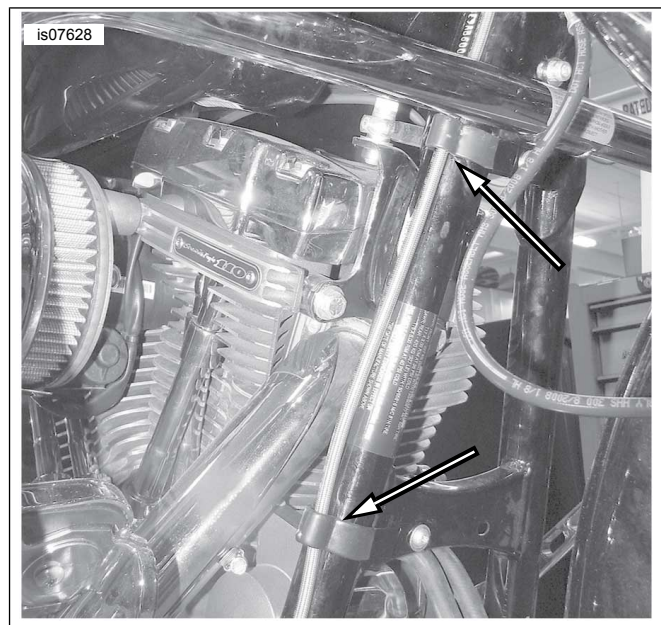
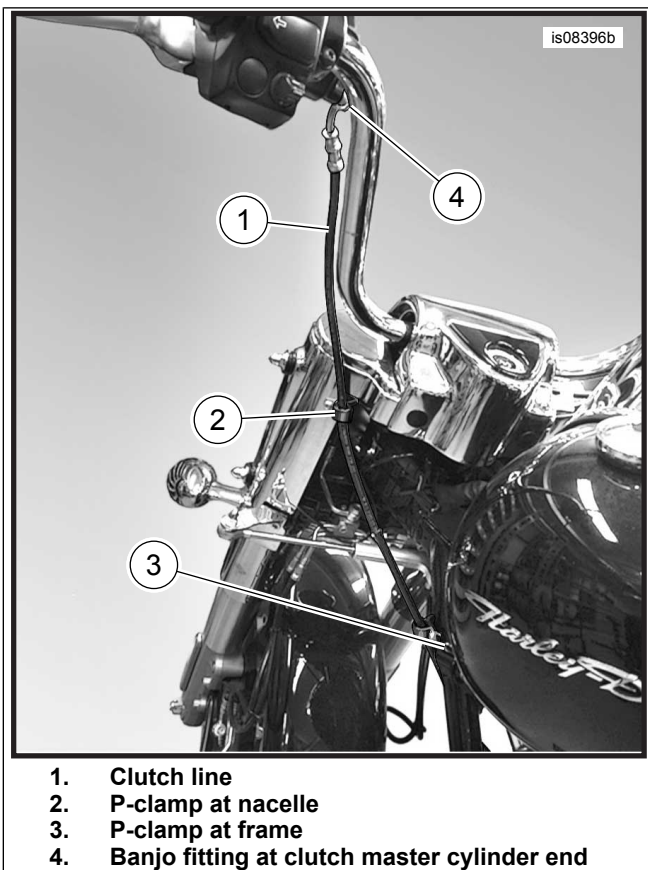

Figure 4. Clamp Locations on Frame Downtube, Fairing Models
Figure 5. Clutch Fluid Line Upper Routing (FLRT Models)
4. See Figure 4 through Figure 8. Route clutch fluid line:
8. **Fairing models:** See Figure 4. Secure line to downtube with two clamps removed earlier. **FLRT models:** See Figure 5. Install P-clamps removed earlier at both nacelle and frame locations. Tighten P-clamp screws to 4.5–5.4 N·m (40–48 in-lbs). **Softail models:** See Figure 7. Install P-clamps removed earlier at both nacelle and frame locations. Tighten P-clamp screws to 4.5–5.4 N·m (40–48 in-lbs).